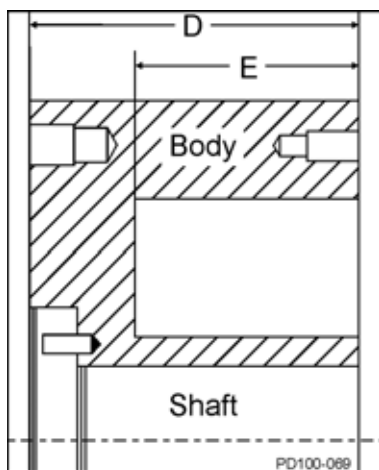
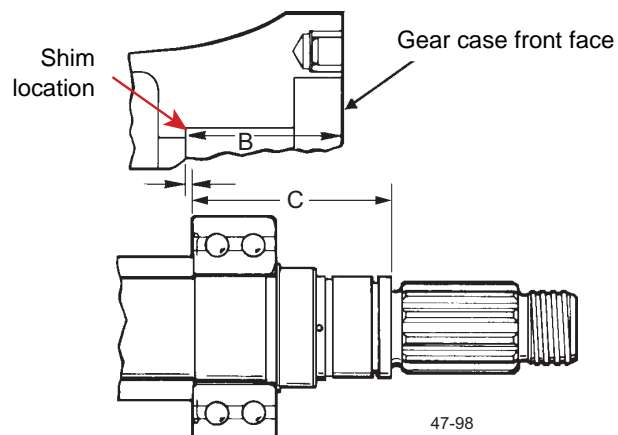

Figure 84 - Measure D and E
Figure 85 - Measure B and C
- If it is necessary to calculate the required shims for replacement shafts, bearings or both, refer to Figure 85 and Figure 84; carry measurements and calculations to three decimal places (i.e. 0.059).
- Measure "B" in the gear case and "C" on the shaft (Figure 85).
- Measure "D" and "E" on the body (Figure 84).
(Callouts for both Figure 85 and Figure 84)